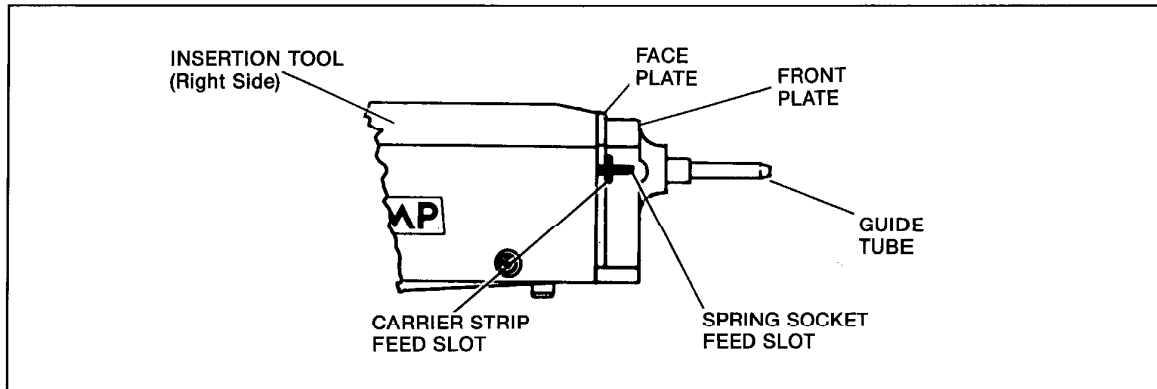

Fig. 3-4. Carrier Strip Feed Slot
2. Carefully insert end of carrier strip into carrier strip feed slot with socket bodies in line with spring socket feed slot (see Figure 3-4).